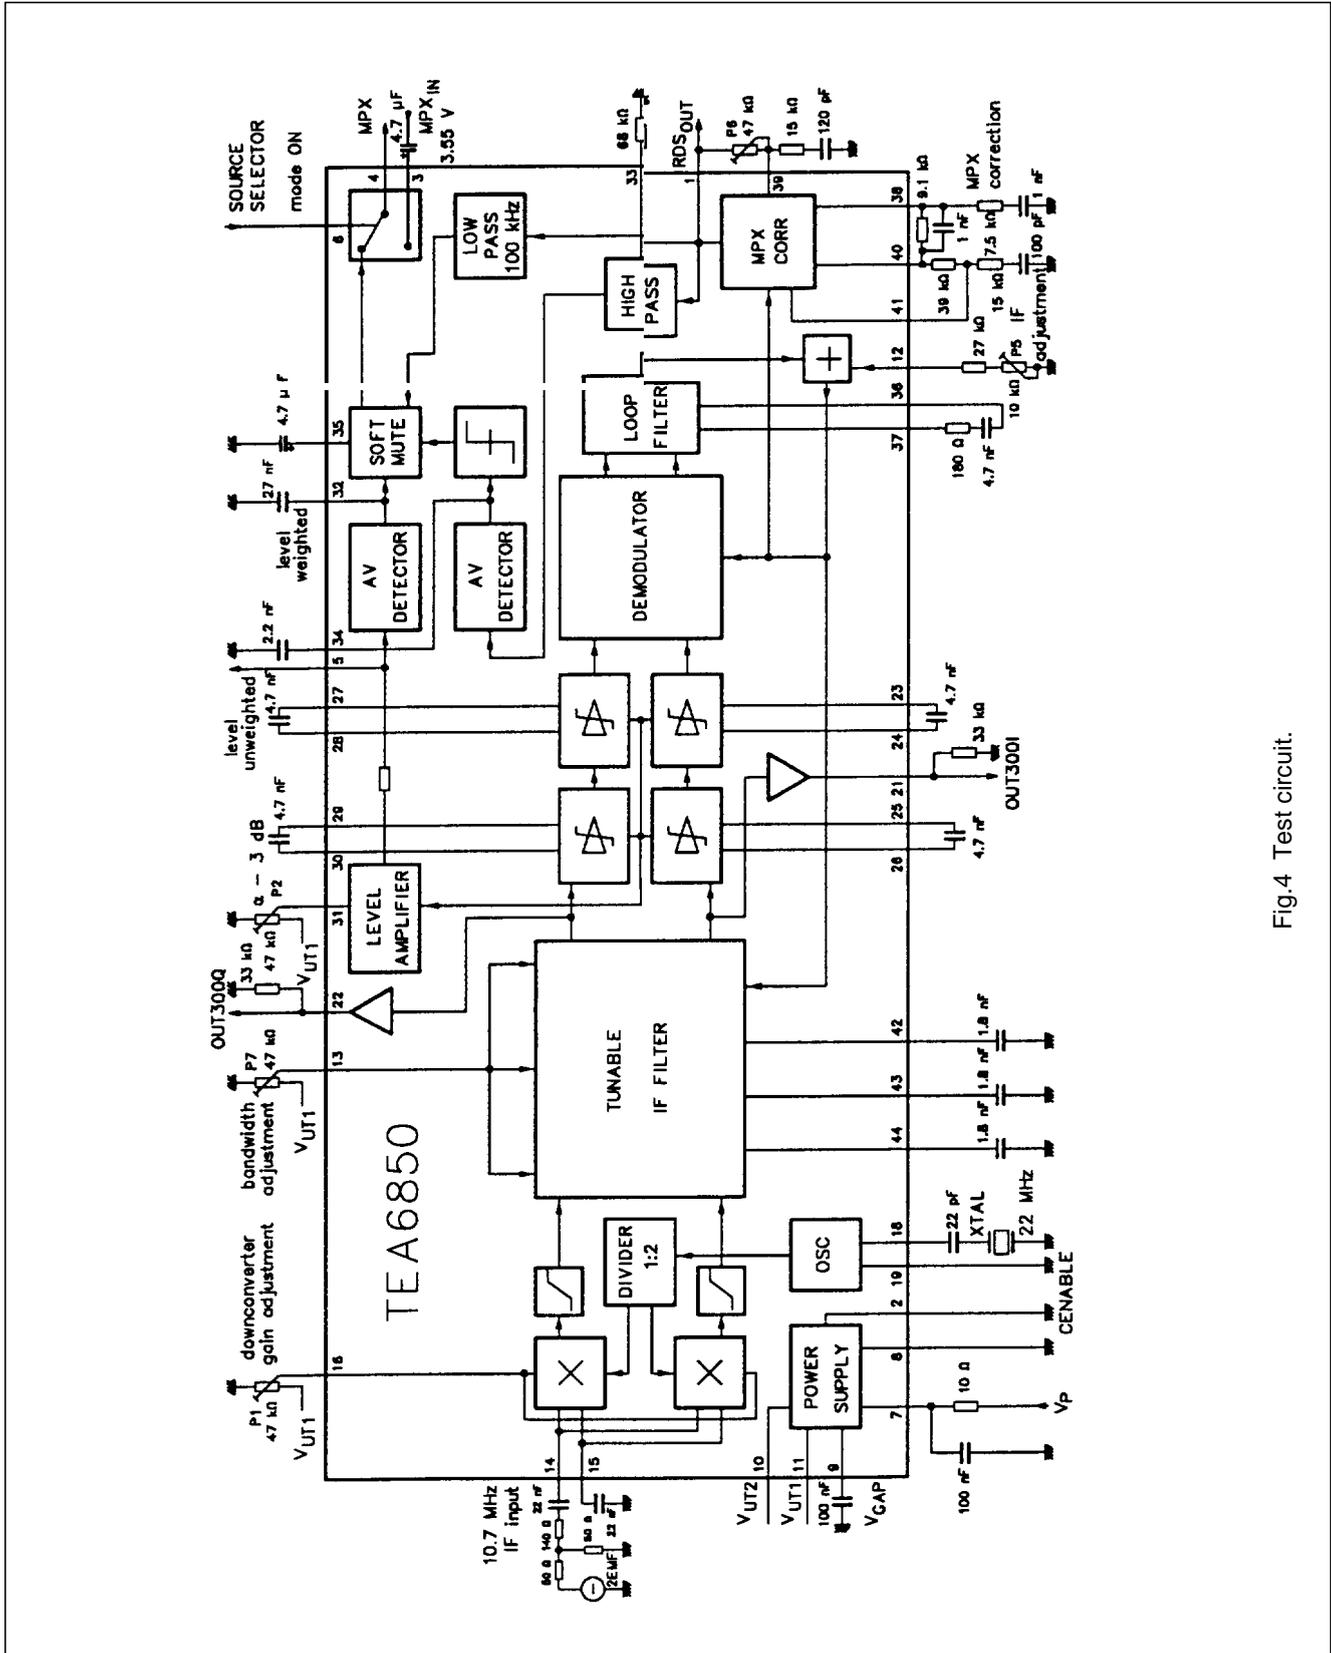

Fig.4 Test circuit.
OUT300Q, I output (pins 21 and 22; ROUT300 = 33 k<math>\Omega</math>; see Fig.4)
**TEA6850****APPENDIX****Alignment procedure for the test circuit (see Fig.4)**